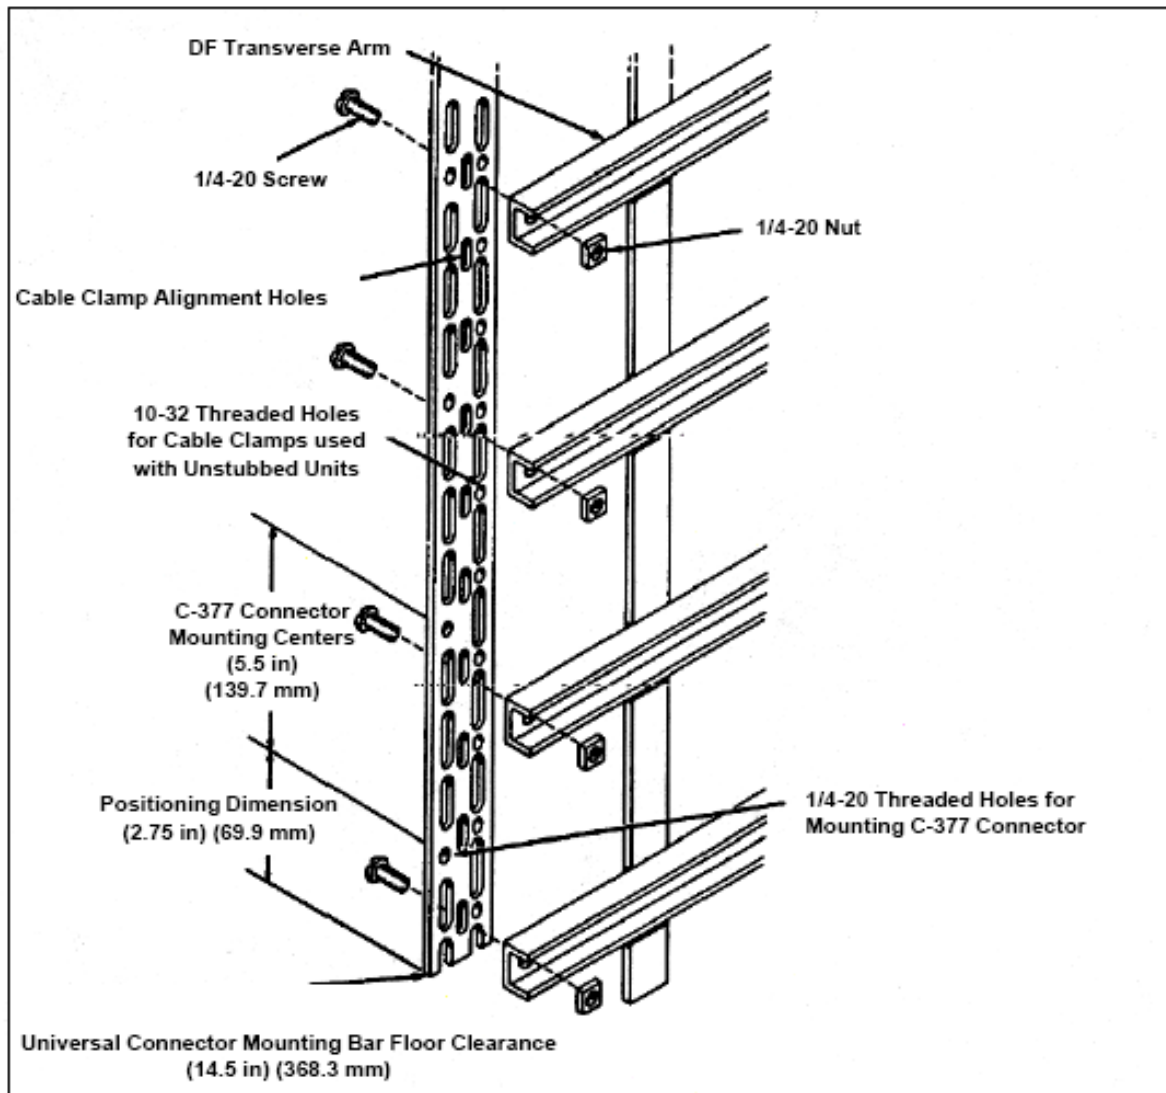

Figure 4 — Installing the Universal Connector Mounting Bar on Frame Transverse Arm
- 4.1 The C-377 connector may require a universal connector mounting bar to accommodate the compact spacing dimensions of the connector base. This mounting bar is used in place of the normal vertical (with 8-inch centers for mounting holes) by bolting to the ends of the transverse arms (Figure 4).